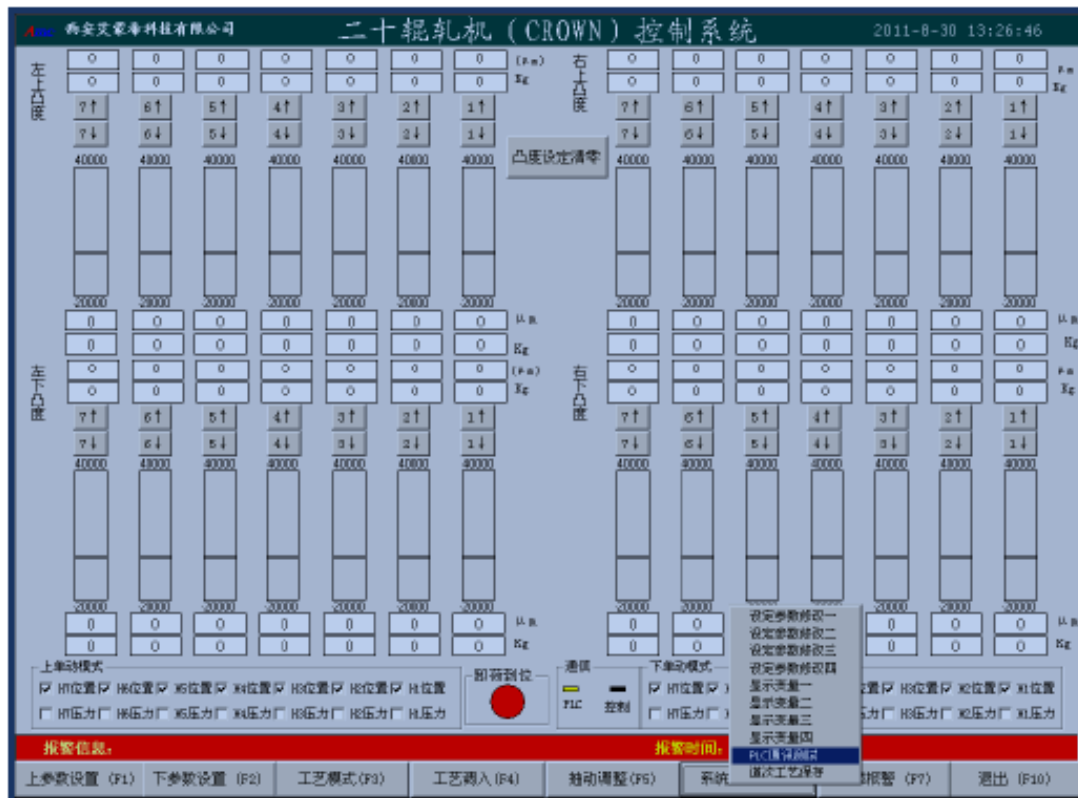
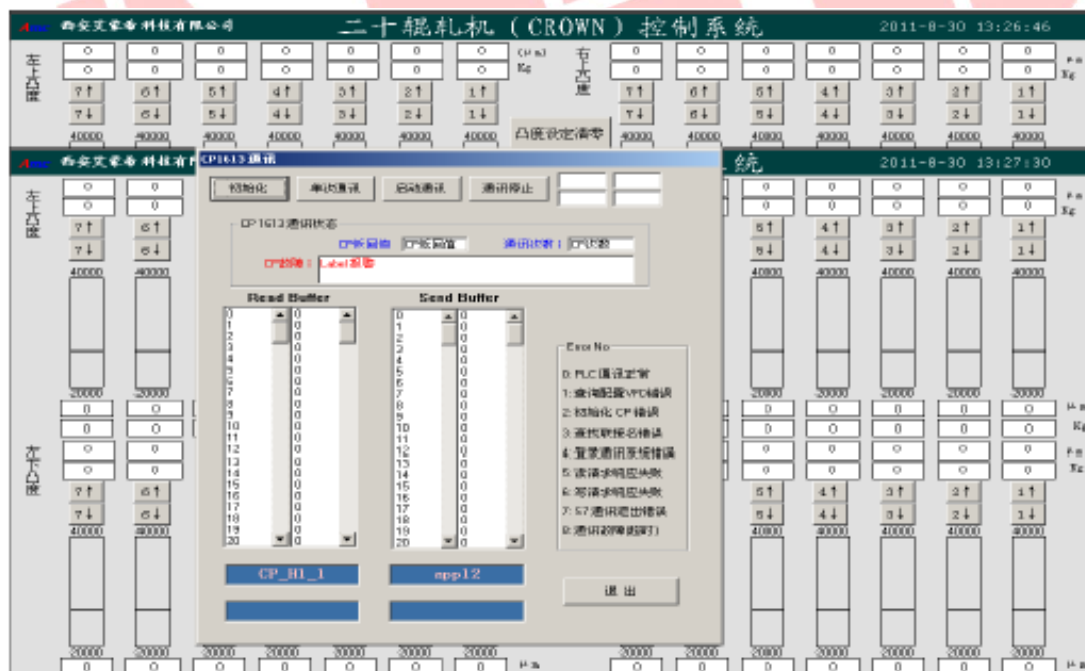

Figure2. System Debug Screen
Figure3. Communication Test Screen
2. left mouse click “system tuning” or press F6 to enter tuning interface (see figure 2), then click “PLC status” to check the PLC working status (see figure 3). Click “Initialize” and “Connect” to connect PC and PLC. If the PLC indicator light on main interface turns green and blinks, the connection is successful. Click “Exit” to close PLC working status window.